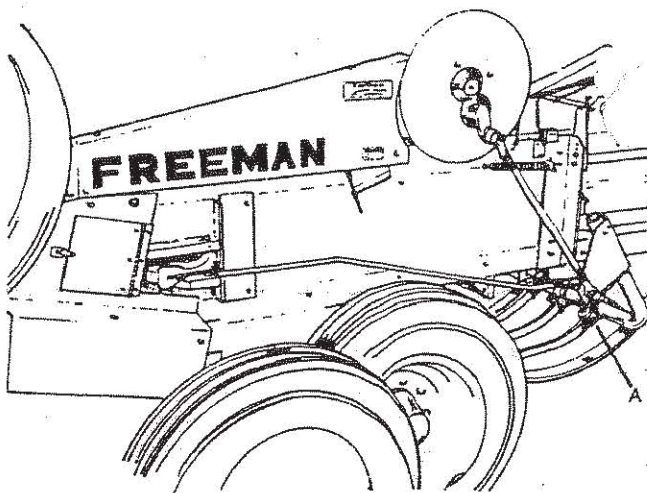

Fig. 18
b. The needles should clear the twine disc cleaner $\frac{1}{8}$ ". To increase the distance between the needle and the twine disc cleaner, loosen the front and tighten the rear needle anchor bolts "A," Fig. 18. To decrease the clearance reverse the procedure.
To increase the distance between the needle roller and the wire divider, loosen the front and tighten the rear needle anchor bolts "A," Fig. 18. To decrease the distance reverse the procedure.